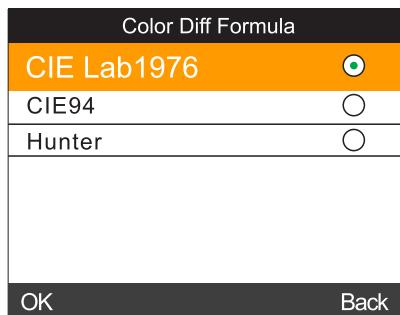

Figure 44 Color Diff Formula
d) Select “Settings” - “Color Diff Formula” to enter an interface shown in Figure 44. You can select the needed color difference formula through this interface. After selecting and saving this formula, the instrument will calculate the color difference according to the selected formula when measuring.